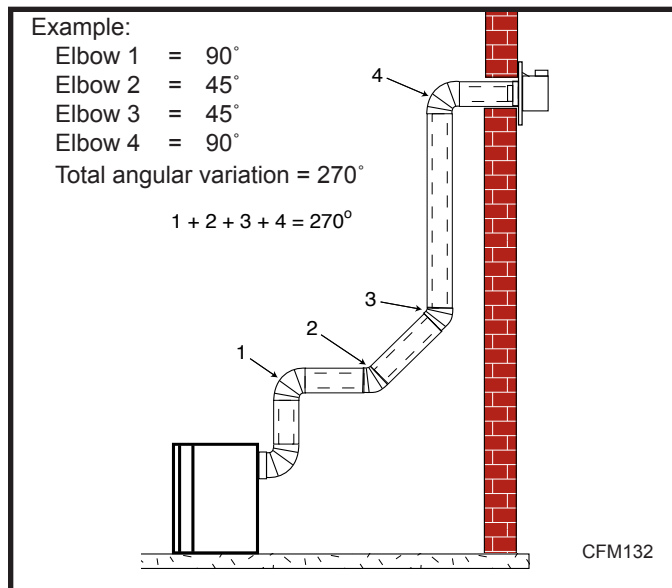

Fig. 26 Maximum number of elbows.
- The maximum number of elbow degrees in a system is 270°. (Fig. 26)